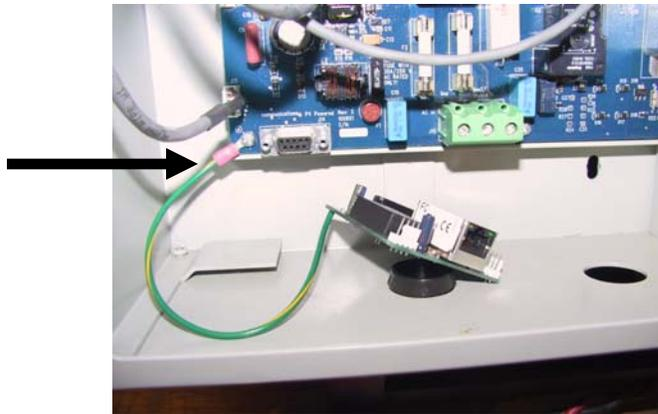

Figure 1
3. Attach the Ground Cable from the PVM1010 device to the lower left corner screw on the power board. (The wire is green with a yellow stripe and has a ring lug on the end.) See *Figure 1*.